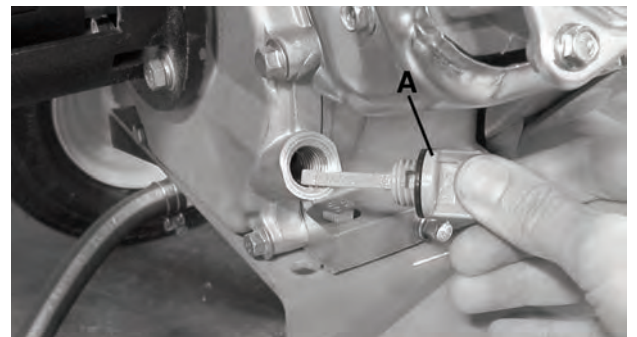

Figure 11
- 1) Turn the oil gauge dipstick (A) Fig.11 counterclockwise, remove it and clean it with a clean cloth.